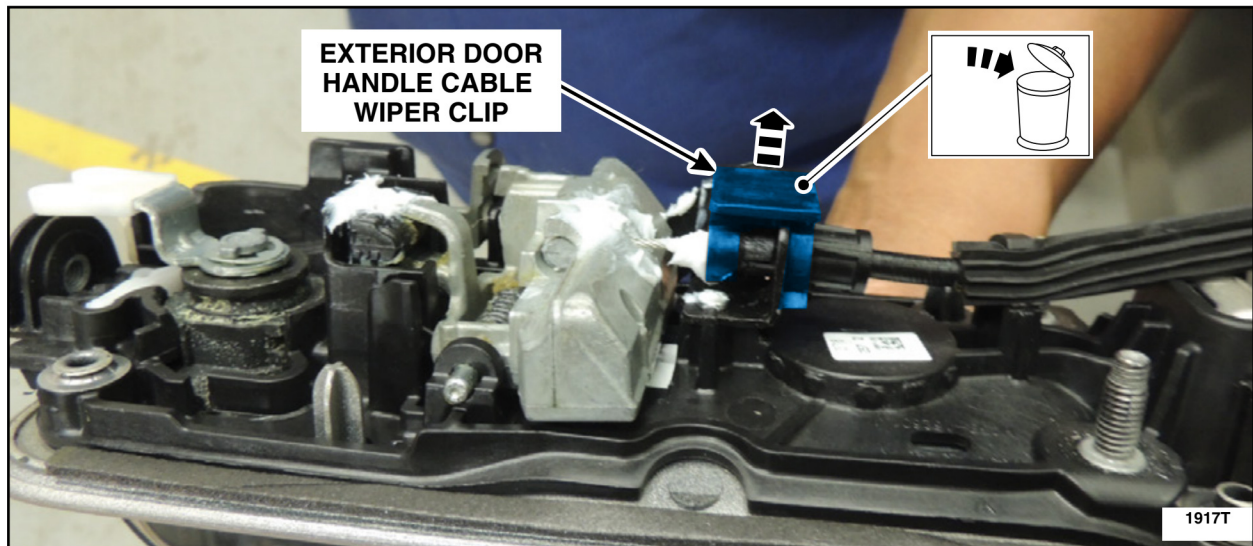

FIGURE 31
2. If a cable wiper clip is present on the exterior door handle cable end, remove and discard the cable wiper clip. See Figure 31.